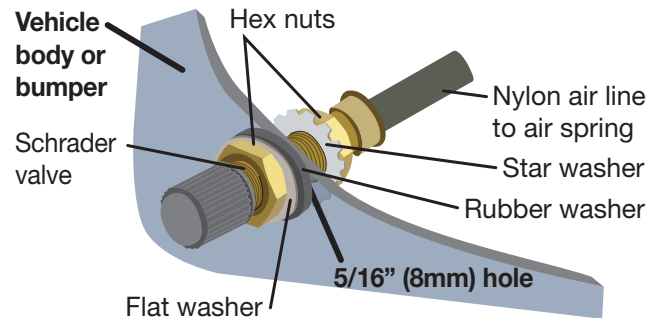

Fig. 18
3. Install the Schrader valve in the chosen location (Fig. 18).